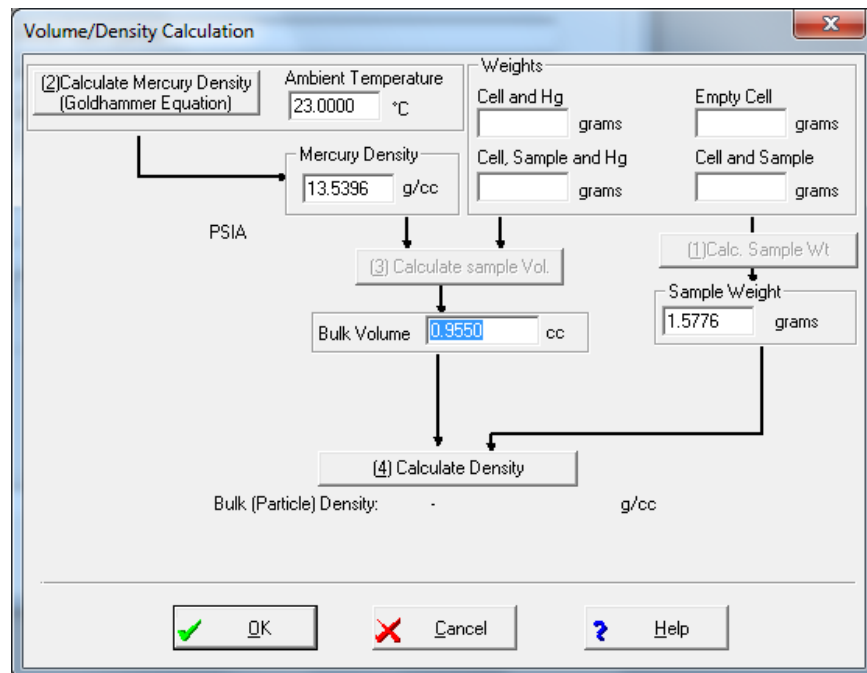

Figure 20. Volume/density calculation dialog box
- Click on the **Volume/Density Calculation** button if the volume and density of the sample are required. If normalization by volume has been requested, it will be necessary to enter the sample volume or do the calculations. The **Volume/Density Calculation** dialog box will be displayed as shown in Figure 20. NOTE: This dialog box is also accessible through the **Data Reduction Menu**.